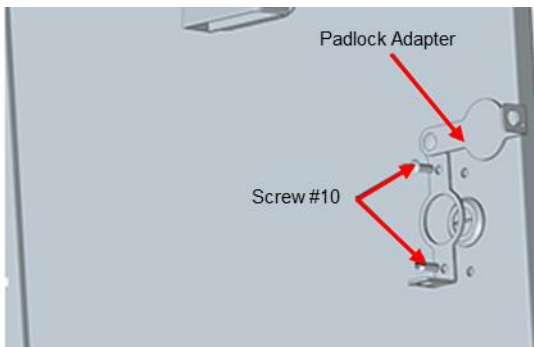

Figure 3: Mounting of the Padlock Adapter
1. Place the Padlock adapter on the front door and push the mounting screws through the pre-drilled holes as shown in Figure 3.